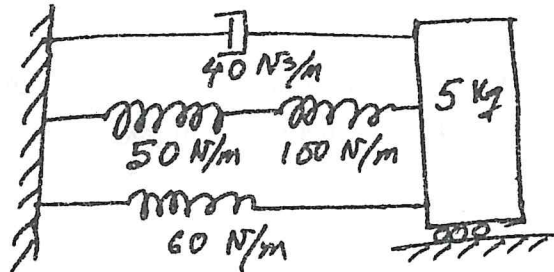

Figure 1(b)
1. (a) Briefly describe the advantages and disadvantages of chain drive system. (10)
- (b) A spring-mass-damper system as shown in Fig. 1(b) is vibrating freely. Determine its naturally frequency and damping ratio. (10)
- (c) In a mechanism as shown in Fig. 1(c), the crank AB rotates about A at a uniform speed of 200 rpm. The lever DC oscillates about the fixed point D , being connected to AB by the connecting link BC . The block F moves, in horizontal guides being driven by the link EF . The dimensions of the various links are: (20)